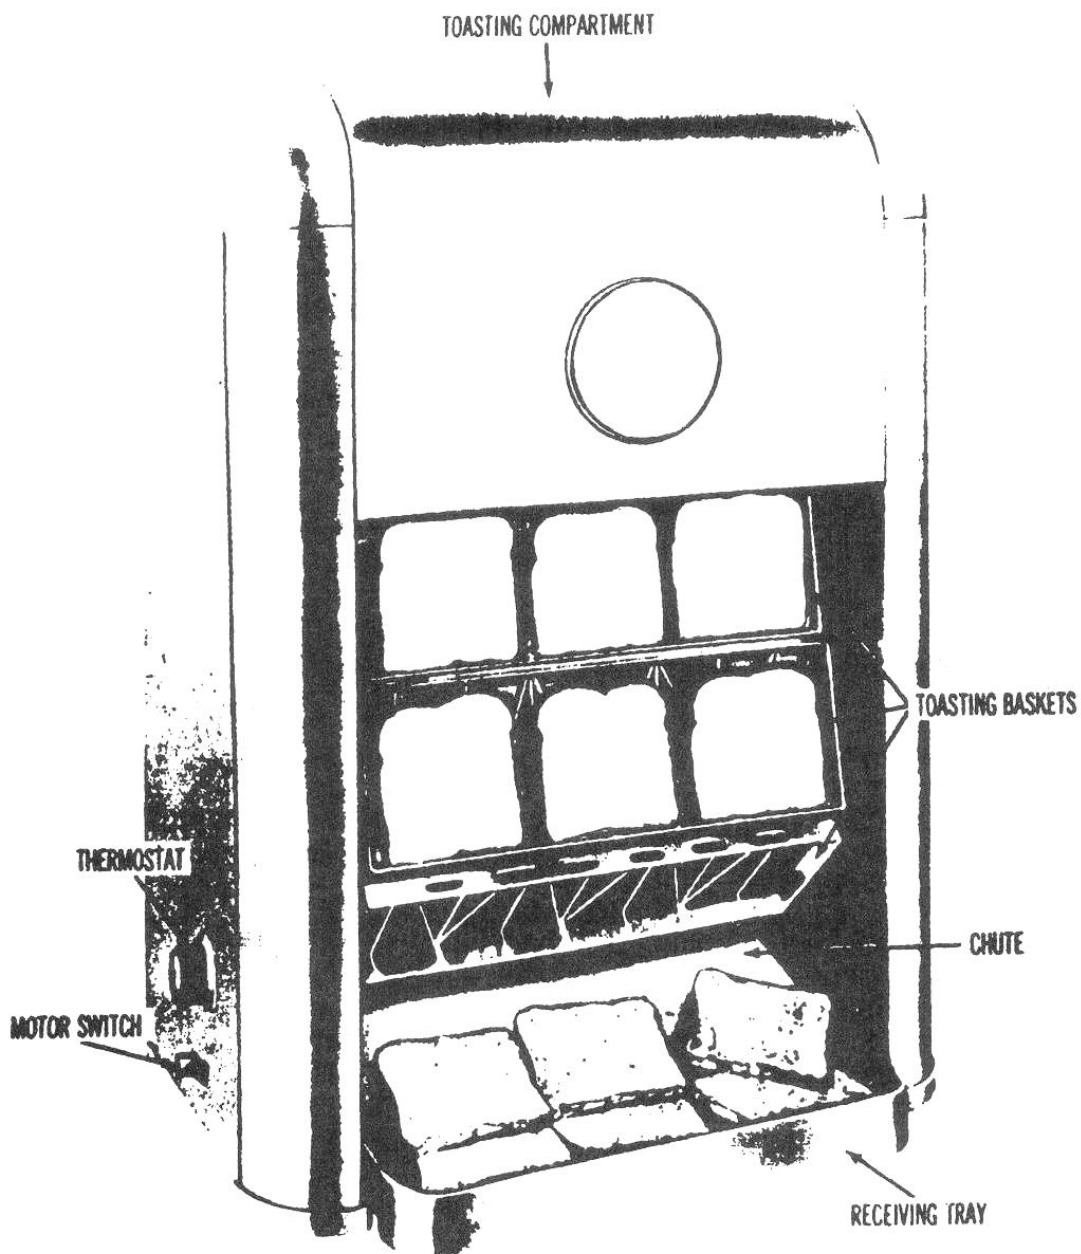

Figure 19. Electric conveyor toaster.
18. **CONVEYOR TOASTER.** This toaster consists of a number of toasting baskets mounted on an endless conveyor chain driven by an electric motor. The toaster has eight baskets, each of which holds three slices of bread. It will toast 570 slices an hour. Bread is placed in the baskets as they pass the opening of the bottom front of the housing. The bread is then carried up into the toasting compartment where it is toasted on both sides by a pair of gas or electric heating elements. As the baskets come down the back of the toaster, they automatically release the toast, which slices into a receiving pan at the foot of the housing. Both gas and electric (fig. 19) conveyor toasters have a starter switch, a knob that turns the conveyor manually, and a thermostat. The starter switch on gas toasters controls only the electrically driven conveyor chain; the starter switch on electric toasters controls the flow of power to the conveyor and heating